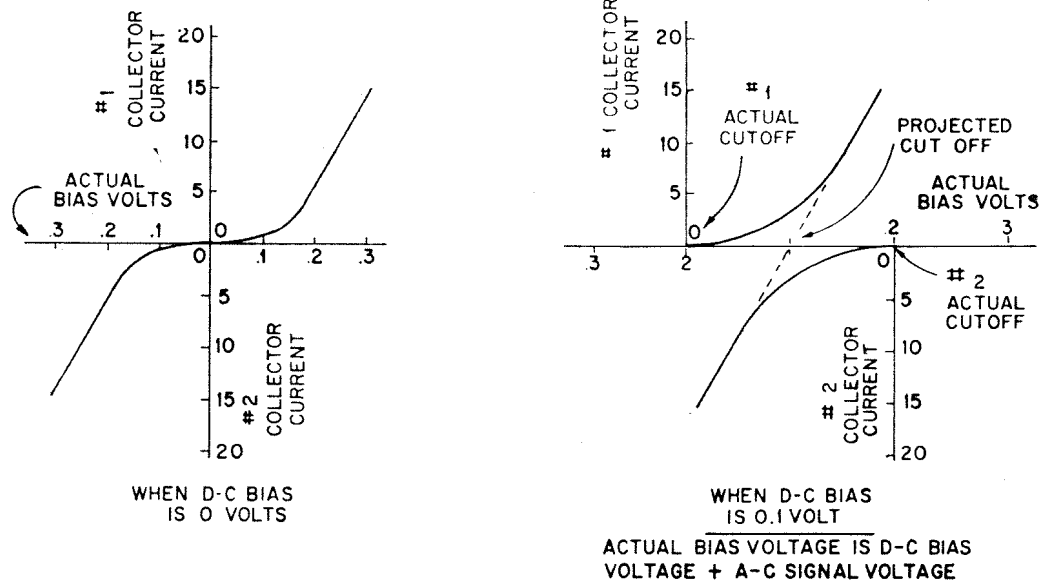

Figure 9 — Crossover Distortion in Class B Circuit due to Improper Bias Voltage.
- The base-emitter voltage on "Class B" push-pull transistors should be 0.08 volts to 0.12 volts. Low voltage will cause a form of amplitude distortion known as "Crossover distortion" and is most noticeable on low volume. This condition is illustrated in Figure 9. If the bias voltage cannot